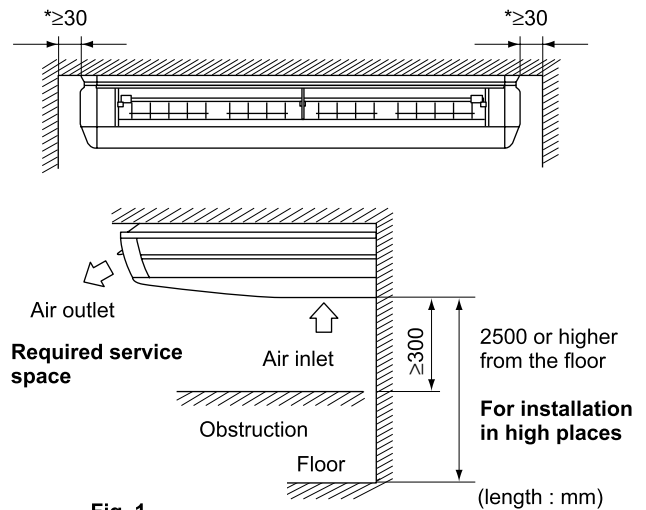

Fig. 1
- (1) **Select an installation site where the following conditions are fulfilled and that meets your customer's approval.**
- Where sufficient clearance for maintenance and service can be ensured. **(Refer to Fig. 1)**